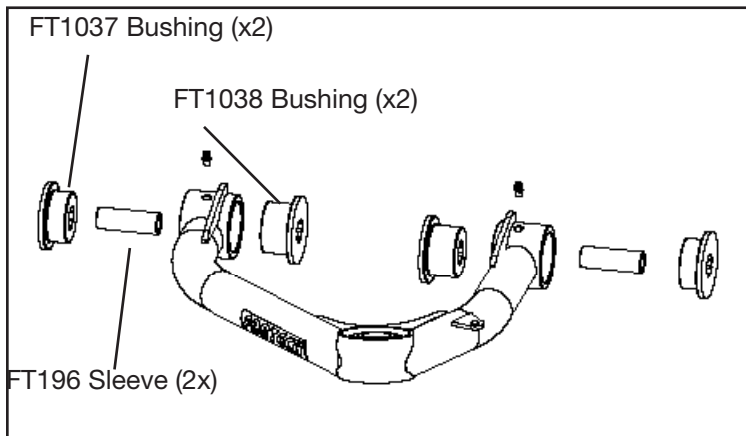

FIGURE 8 - STEP 7
7. Locate the new Fabtech control arms, two (FT1037) bushings, two (FT1038) bushings, four (FT57-1) washers, and two (FT196) sleeves. Install the components into the new control arms. **SEE FIGURE 8**